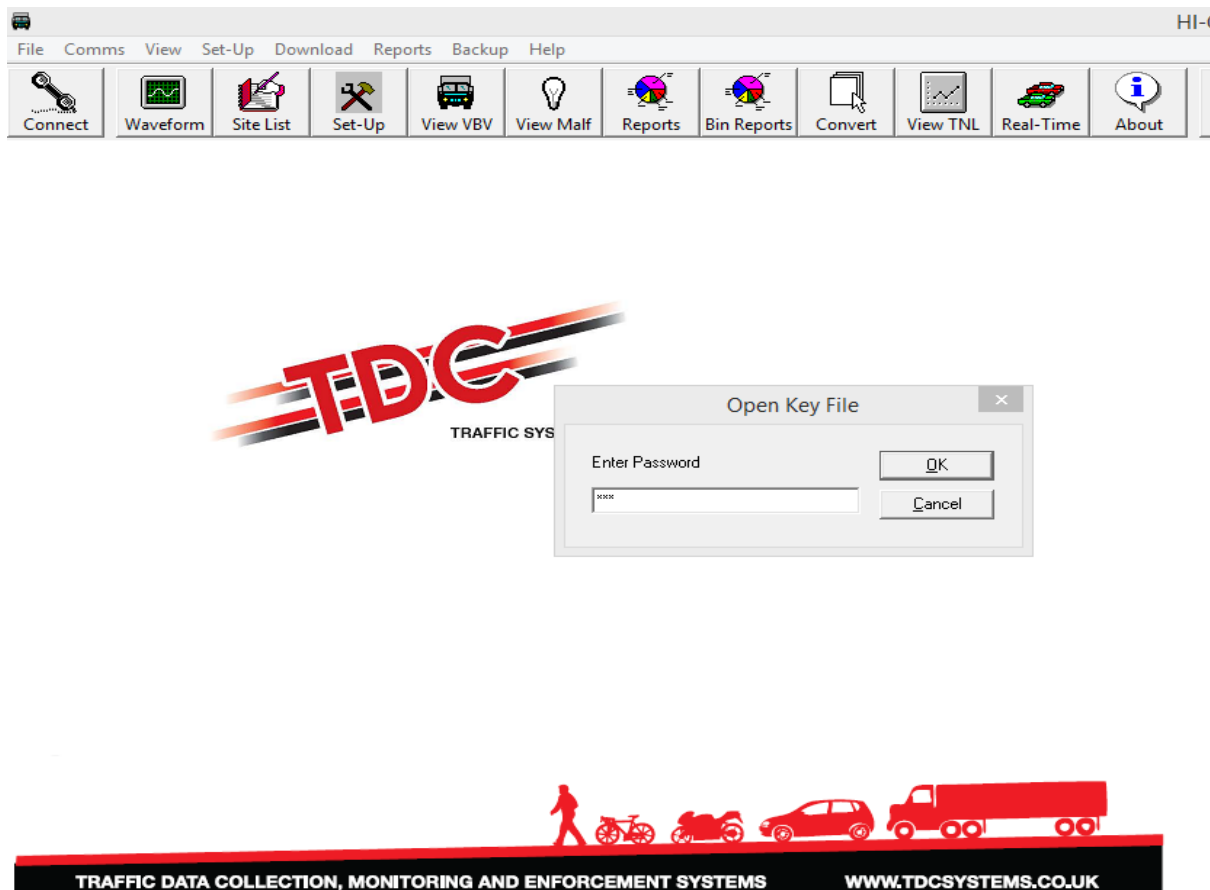

Figure 6: Engineer Mode
4. Double click the '**TDC.key**' from the HI-COMM 100 folder and enter the password as shown in the Figure 6.